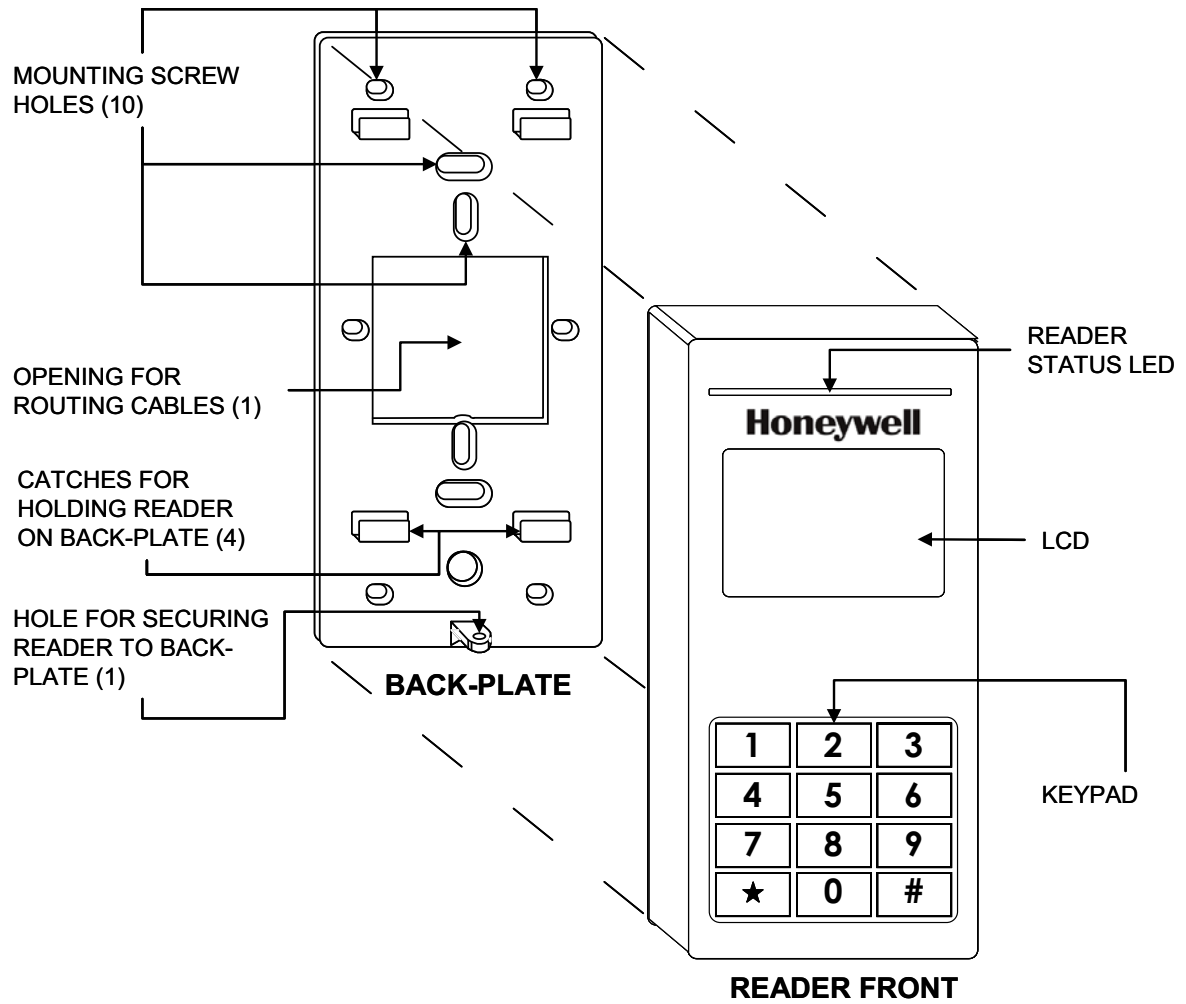
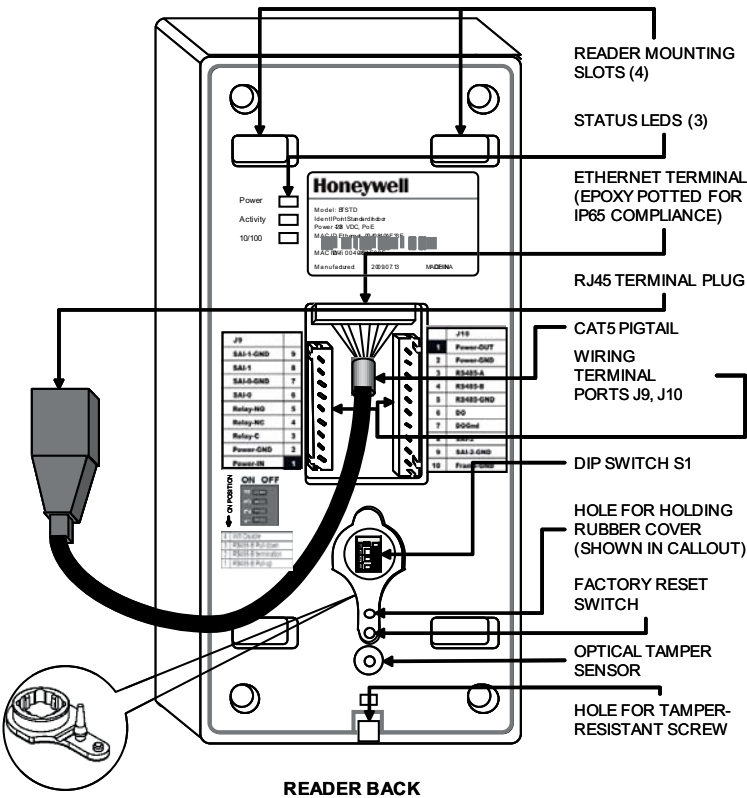

Fig. 2. Parts of Identipoint reader - Front of reader and Back-plate
Fig. 3. Parts of Identipoint reader - Back of reader
1. Fig.2 and Fig.3 show the parts of the IdentIPoint reader. Use the back-plate of the reader to mark out the position of the reader on the drywall. Mark the positions of the mounting screws and the opening for routing the cables.
1. Fig.2 and Fig.3 show the parts of the IdentIPoint reader. Ensure that the correct sized gang box is securely embedded in the concrete wall. The holes provided in the gang box for the screws should align properly with at least two of the holes provided in the reader back-plate for the screws.